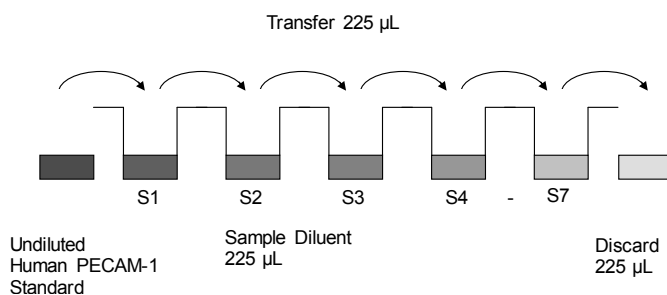

Fig. 5 Dilute standards - tubes
4. Repeat serial dilutions 5 more times thus creating the points of the standard curve (see Figure 5).